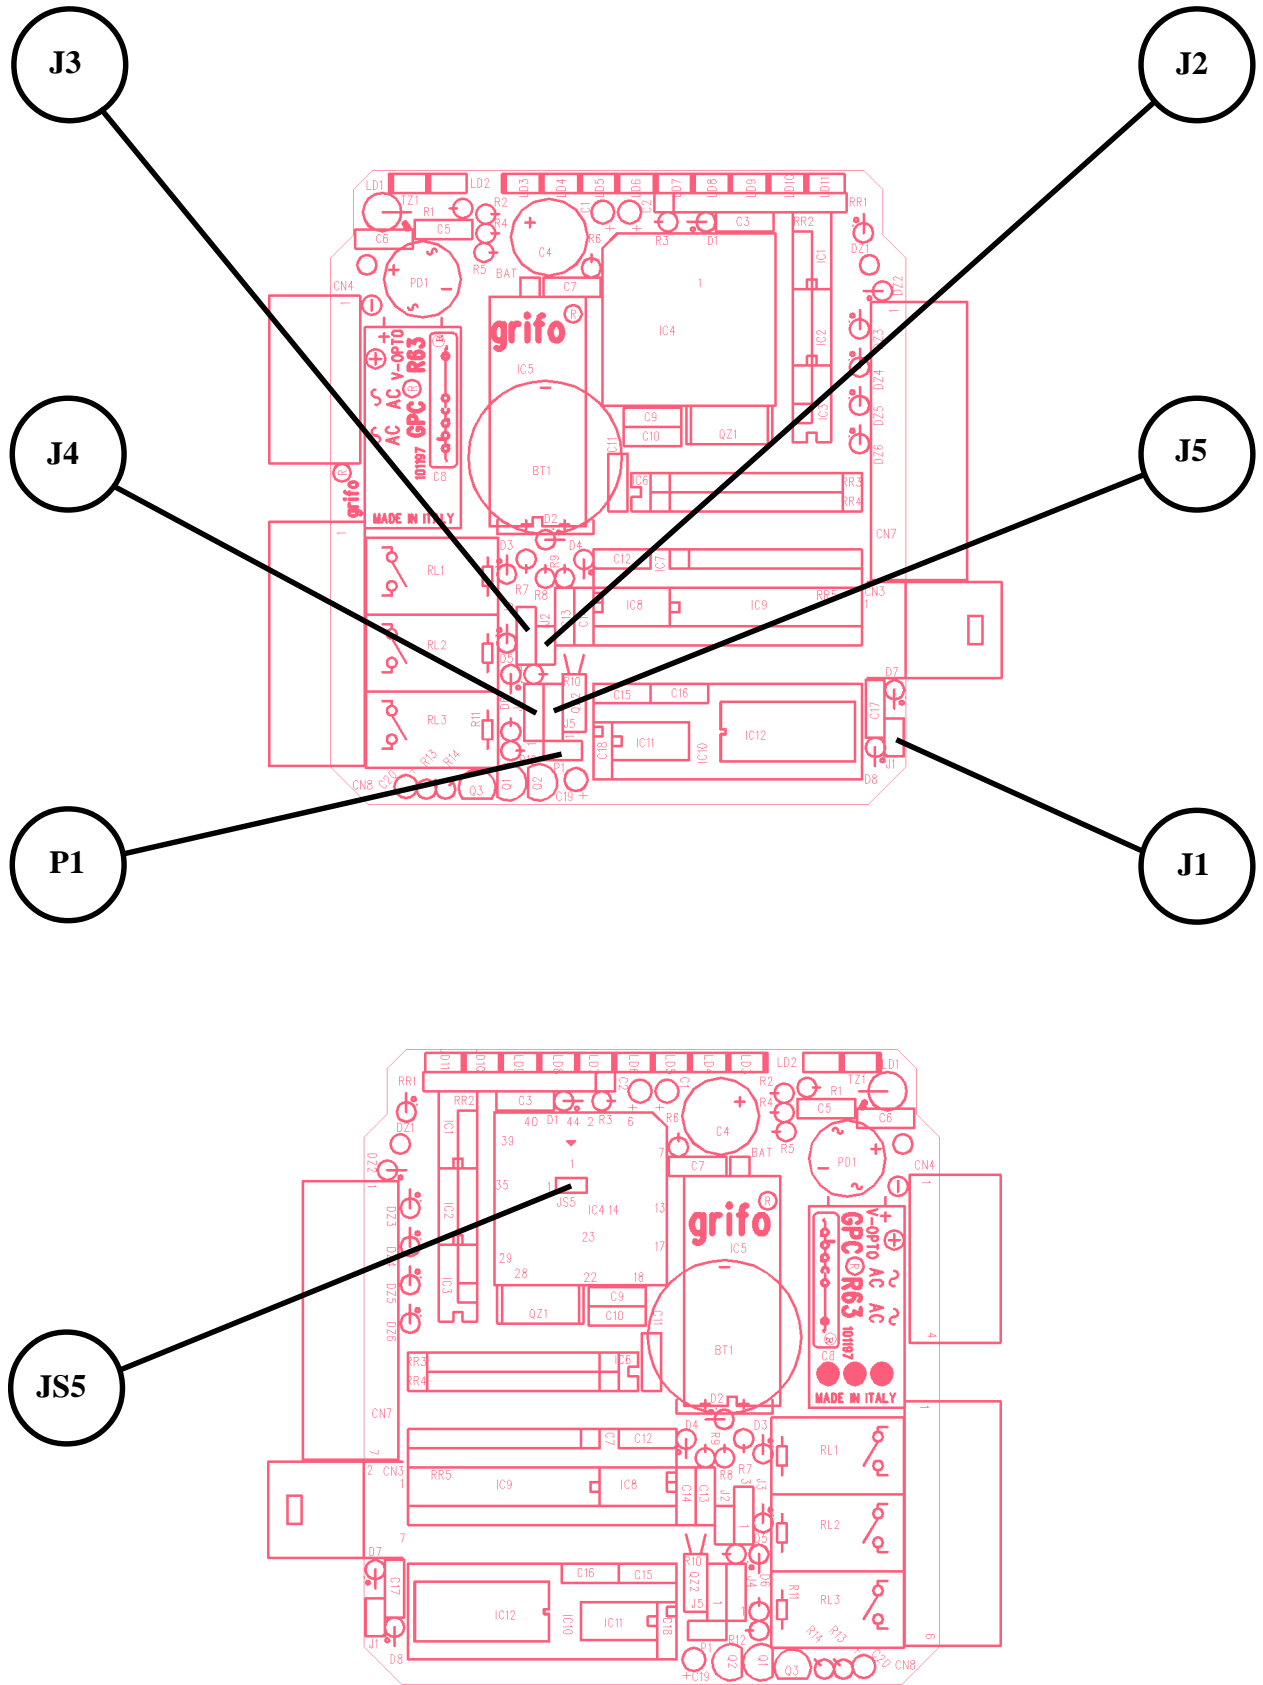

FIGURE 23: GPC® R63 JUMPERS LOCATION (COMPONENT AND SOLDER SIDE)
The P1 contact can enable the card reset circuitry by connecting the two jumpers pins to a normally open contact (i.e. a button), when the contact is closed (two pins short circuited) the card restarts execution of the program saved in the code area and all the on board peripheral devices are reset at the same time. P1 is commonly used to exit from endless loops especially during debug phase. To recognize P1 location on the board, please refer to figures 23 and 24.
**GPC® R/T63** card is equipped with one jumper (J1) that can be read by software. It is normally used for system configuration (operating mode selection, card number programming inside a network system, firmware configuration, etc.). The J1 status ("0" = CONNECTED; "1" = NOT CONNECTED) can be acquired by reading the RUN/DEBUG register that is allocated in the microprocessor addressing space by the control logic, as described in the paragraph "I/O ADDRESSES". Many software tools available for the **GPC® R/T63** use this jumper for RUN or DEBUG mode selection, as described in the previous table, but the jumper can still be acquired by the user. For recognizing J1 location, please refer to figures 23 and 24.